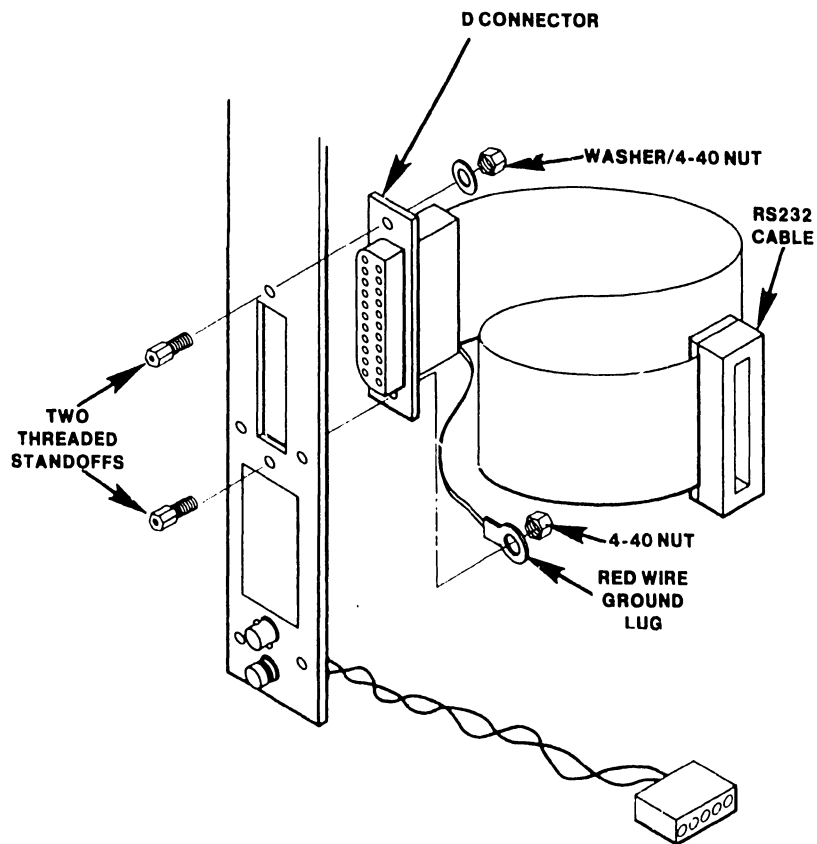

Figure 4-23 RS 232-C or RS-366 Interface Cable Installation
1. Position the TC rear panel as shown in Figure 4-23 (external side of TC rear panel is shown).
2. Align the interface cable "D" connector behind the panel slot labeled RS-232-C or RS-366. Position the connector such that the long edge of the "D" connector is on the right (see Figure 4-23).
3. Insert two threaded standoffs (P/N 478-0791) through the TC rear panel screw holes and the "D" connector as shown in Figure 4-23.
4. Install the red wire ground lug and washer on the standoffs (back side of "D" connector) as shown in Figure 4-23.